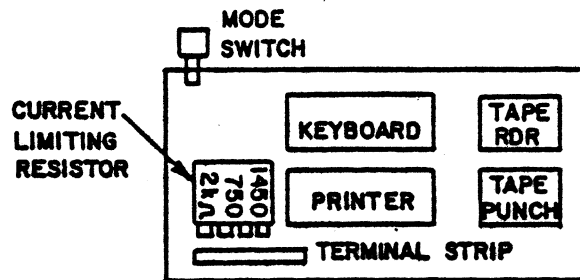

FIG. 5a
1. Locate the black terminal strip in the back of the data terminal. See Fig. 5a.